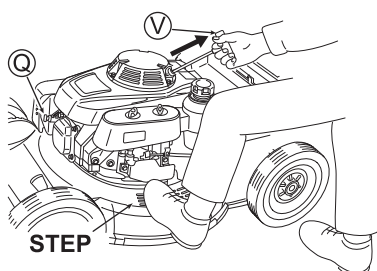

Fig. 12
- 1 Install Plug cap (Q). (See Fig. 12)
- 4 To start the engine, step one foot on the step of the housing, lightly pull Starter knob (V) and temporarily stop at a position where you feel heavy to pull the knob (See Fig. 12), and then powerfully pull it from that position. After that, return Starter knob (V) slowly.